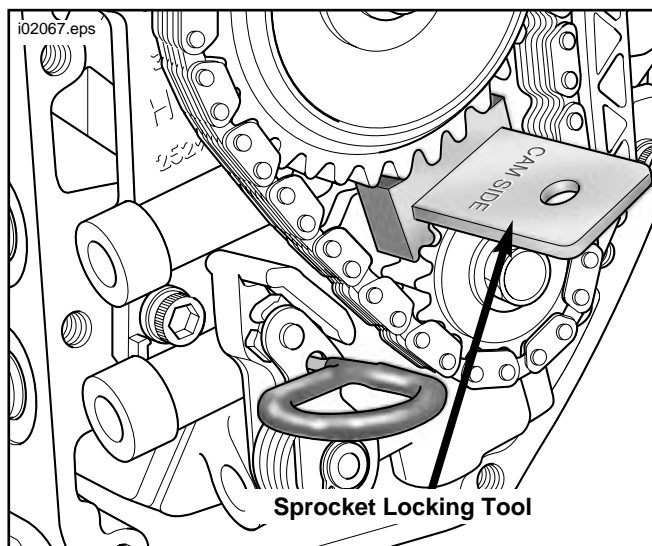

Figure 7. Crankshaft/Camshaft Sprocket Locking Tool (Part No. HD-42314)
- f. See Figure 7. Position CRANKSHAFT/CAMSHAFT SPROCKET LOCKING TOOL (HD-42314) between the crank and primary cam sprockets to prevent rotation. The handle of the tool is stamped "Crank" and "Cam" to ensure proper orientation.